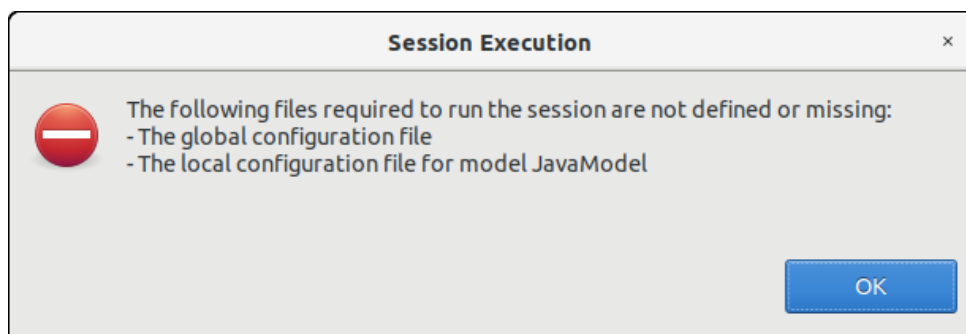

Figure 4-119: Execution prevented due to missing configuration files
- ❑ If the global configuration file for the simulation, or the local configuration file of any active module in the simulation is missing, the execution will not proceed, and a dialog will be displayed listing the missing files as shown in Figure 4-119.